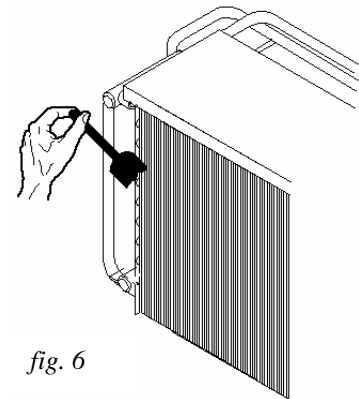

fig. 6
- Remove the dust and the dirt in the condenser fins using a brush or a vacuum cleaner with a soft brush attachment (see fig. 6)